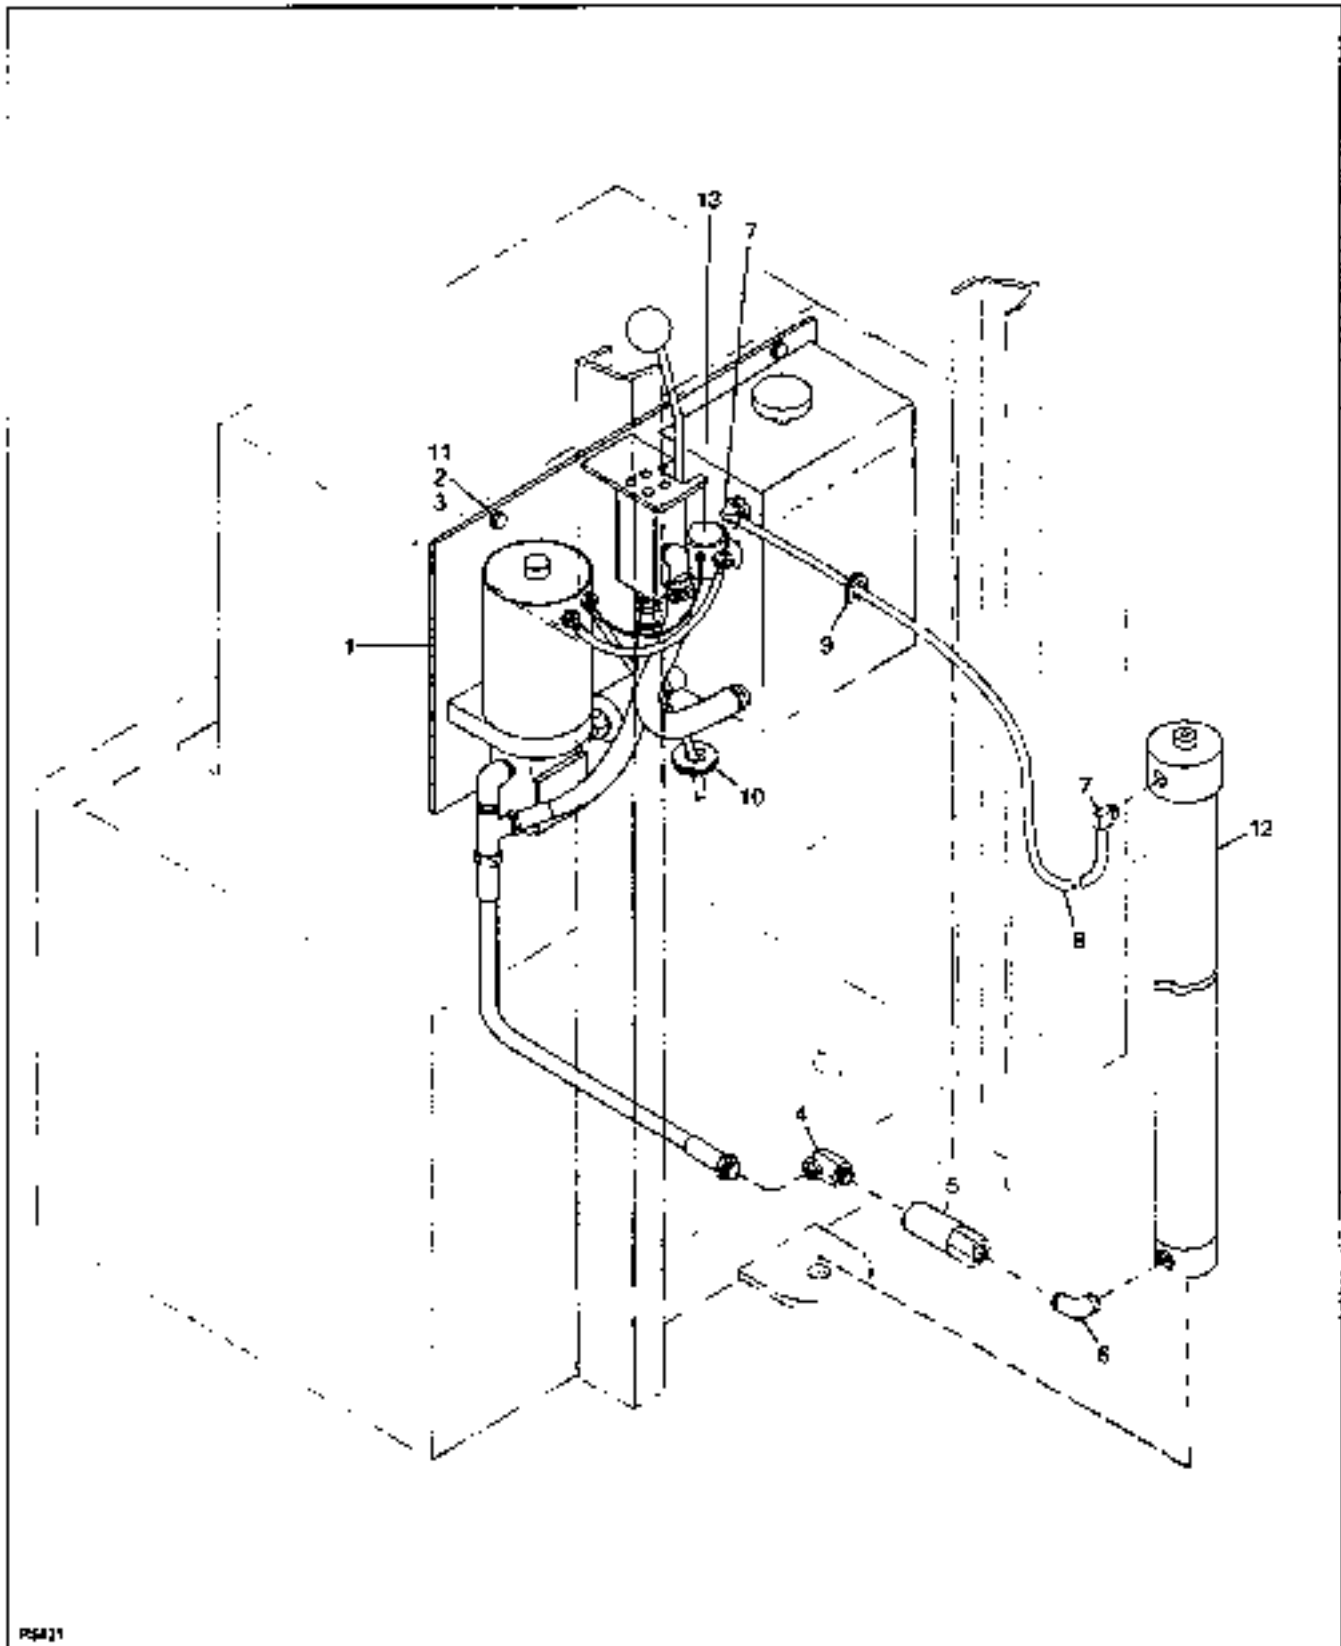

Figure 9-1. Hydraulic Installation (TEL AND NON-TEL)
2. Remove the leaking line or fitting and replace it with a new one. Refer to Figures 9-1, 9-2, 9-3 and 9-4.
1. Raise the forks high enough to gain access to the flow control valve (5, Figure 9-1 or 7, Figure 9-2).
4. Disconnect hose assembly (21, Figure 9-3 or 20, Figure 9-4) at fitting (4, Figure 9-1 or 9-2).
5. Remove flow control valve (5, Figure 9-1 or 7, Figure 9-2).
8. Install elbow (4, Figure 9-1 or 8, Figure 9-2) and reconnect disconnected hose.